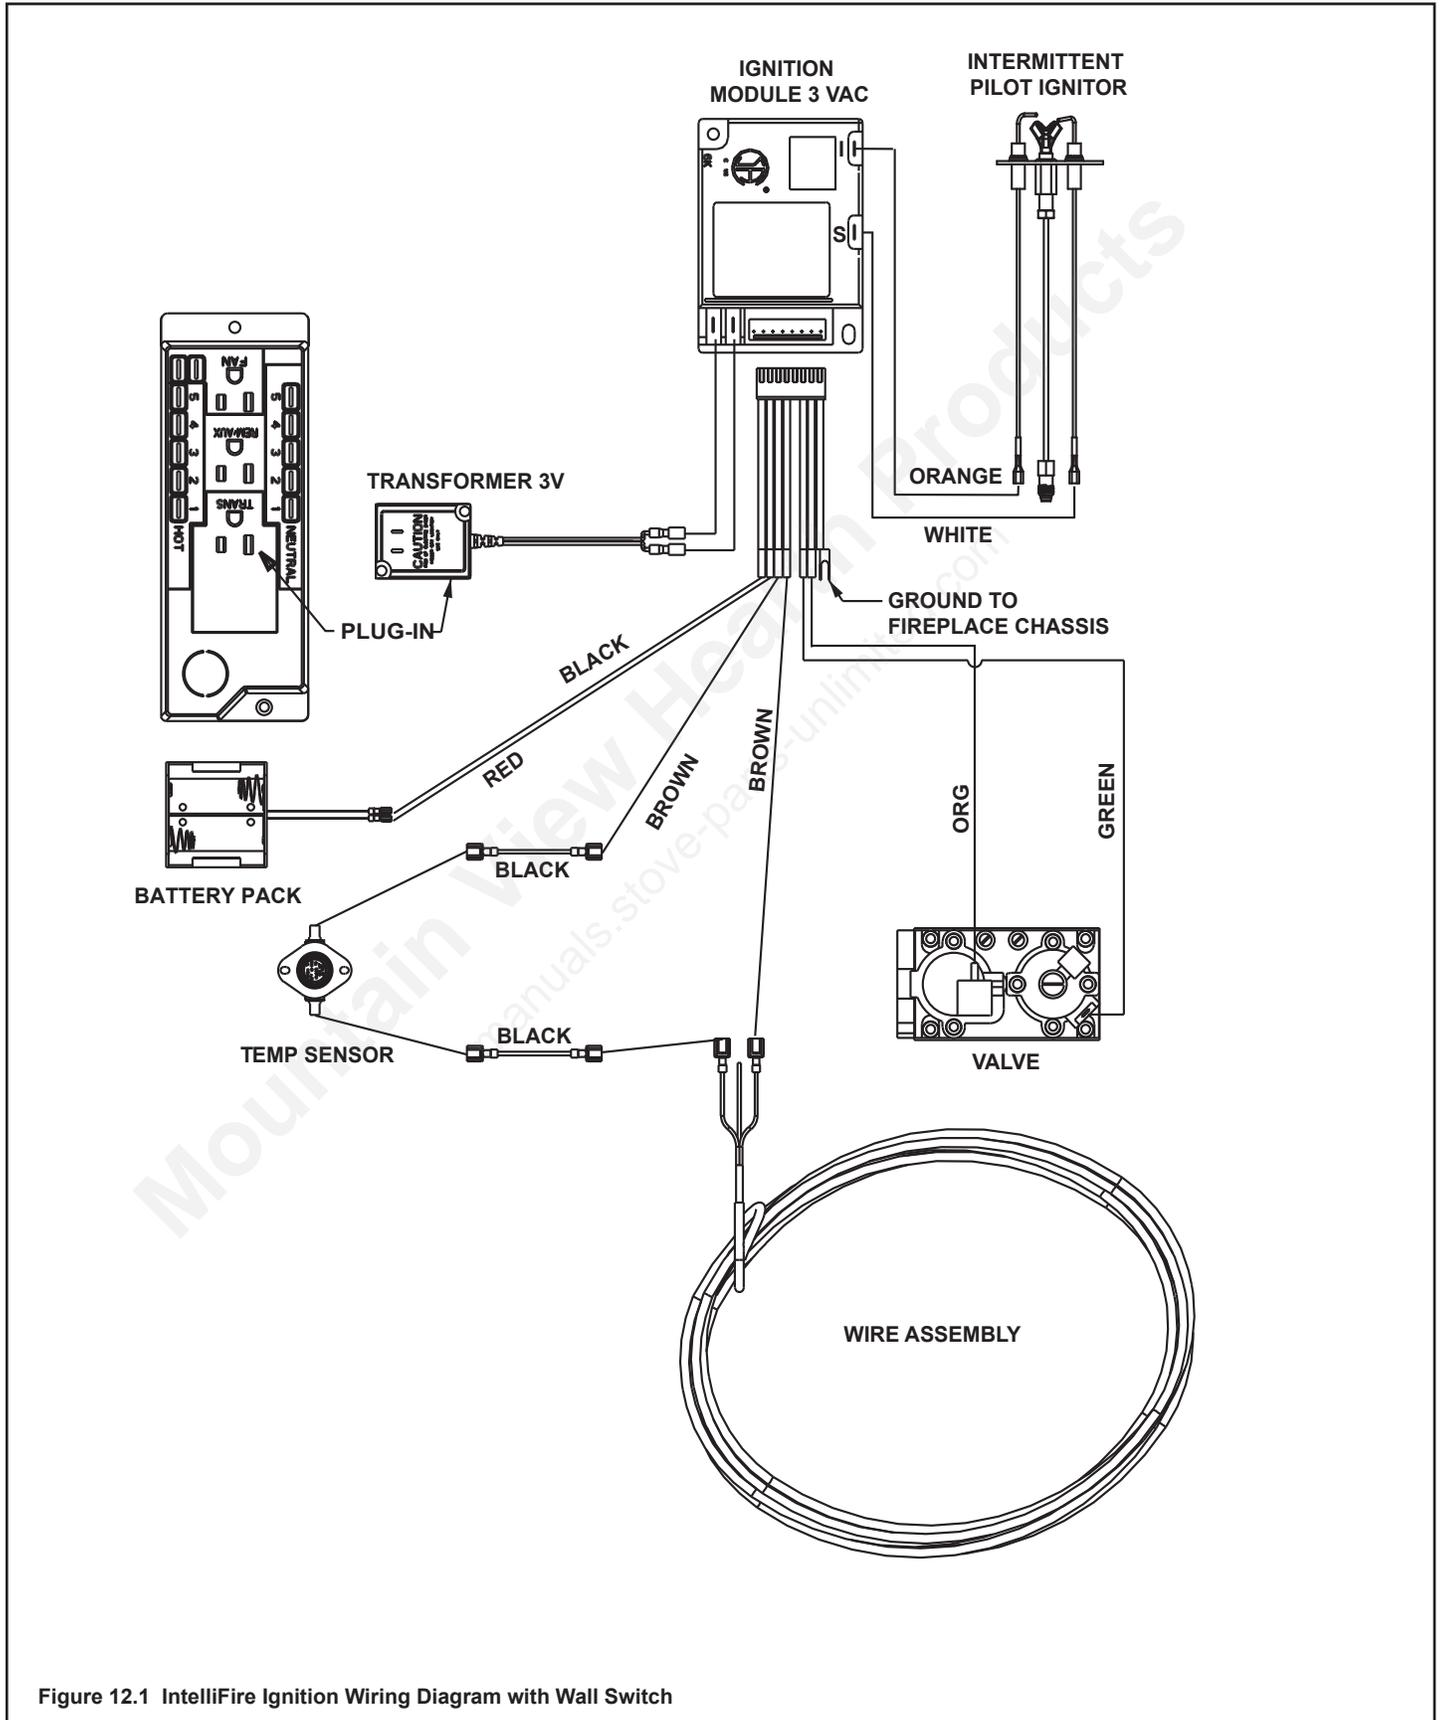

Figure 12.1 IntelliFire Ignition Wiring Diagram with Wall Switch
- Refer to Figure 12.1, IntelliFire Pilot Ignition (IPI) Wiring Diagram.